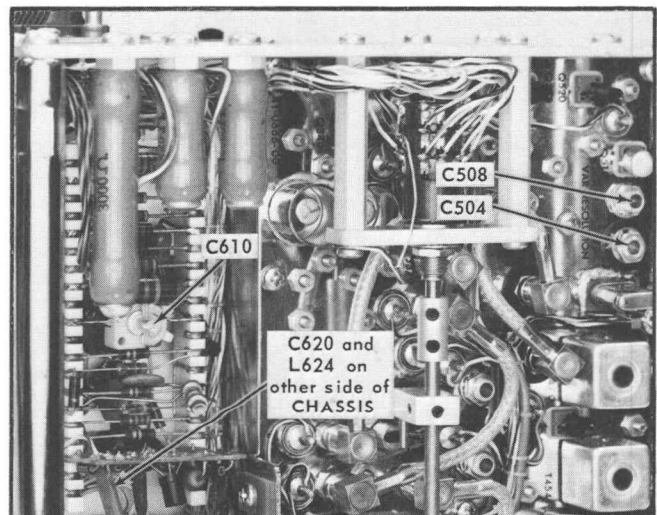

Fig. 6-7. Location of Resolution adjustments (Step 4).
d. See Fig. 6-7 for the location of the adjustments described below.